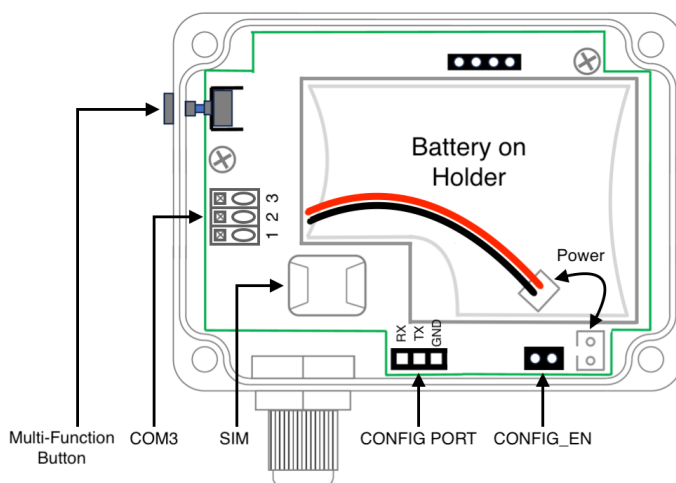

Figure 2. Inside SEN22600
5. Pass the MIU (or the water meter) cable with the pulse count outputs through the cable gland. Refer to Table 2, connect it to COM3 next to the multi-function button (see Figure 2). Tighten the cable gland afterward.